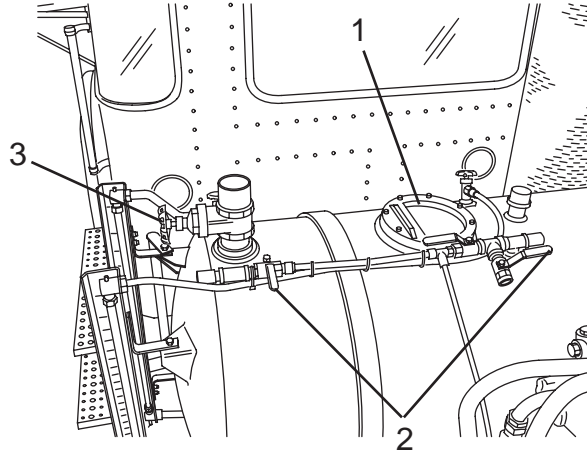

Figure 105
6. Check flopper valve (Figure 105, Item 1) for free movement, and make sure it seats properly.
7. Check valves (Figure 105, Items 2 and 3) to make sure they move freely.